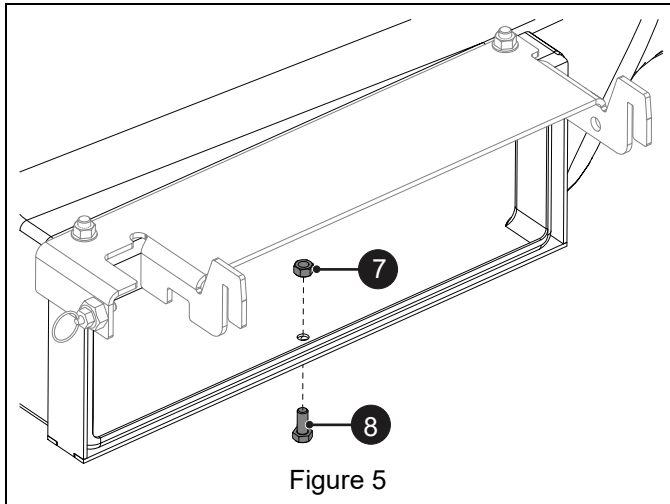

Figure 5
- Secure bottom edge of frame assembly to grass catcher with one 5/16" x 3/4" hex bolt (item 8) and one 5/16" center locking flange nut (item 7). See Figure 5.